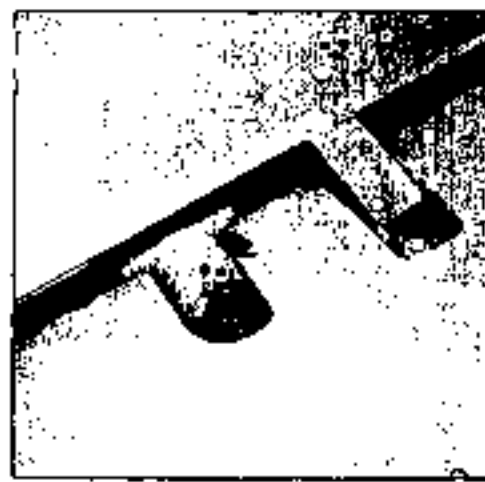

Fig. 5-50 Insert rig pin into trim actuator
- (3) Insert rig pin into elevator trim actuators (both L. H. and R. H.) (See Fig. 5-50).
- (4) Disconnect cable from turnbuckle at F. STA 8370.
- (5) Remove rig pin from drum.
- (6) Rotating drum, remove cable terminal without impairing cable on drum of elevator trim. Remove forward cable from aircraft.